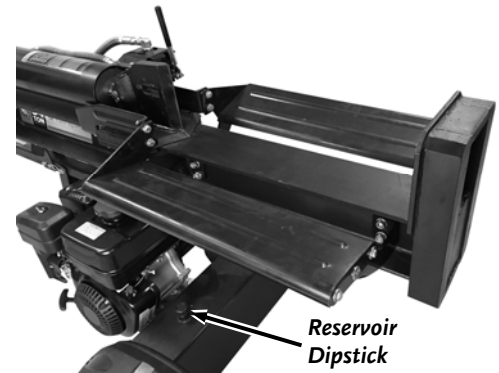

Figure 58
1. Remove the Reservoir Dipstick from the Reservoir Tank and clean it with a Rag (**Figure 58**).